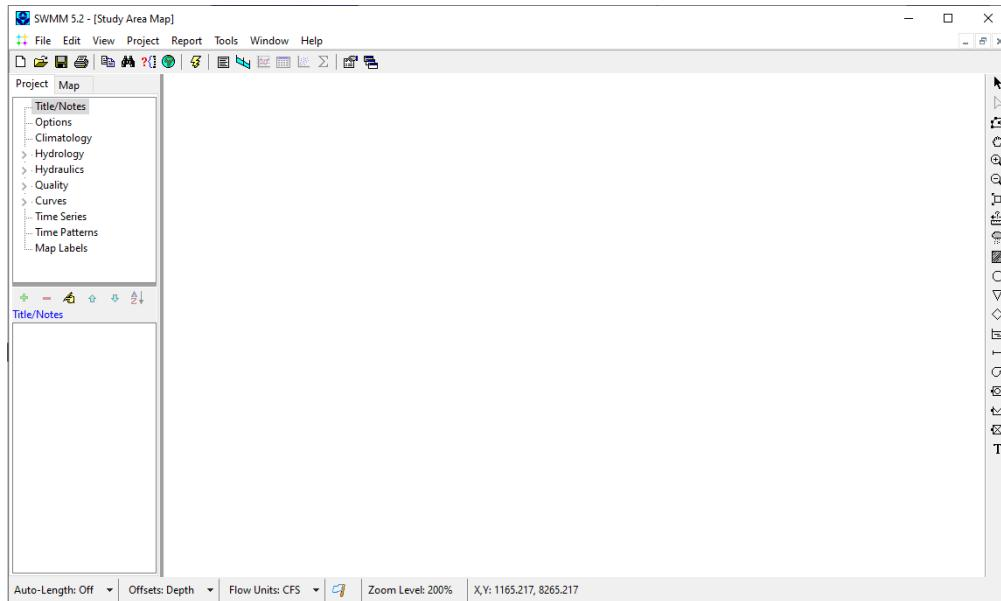

Figure 1-5. Starting an empty SWMM project
- Step 6: Start an empty SWMM project (Figure 1-5).